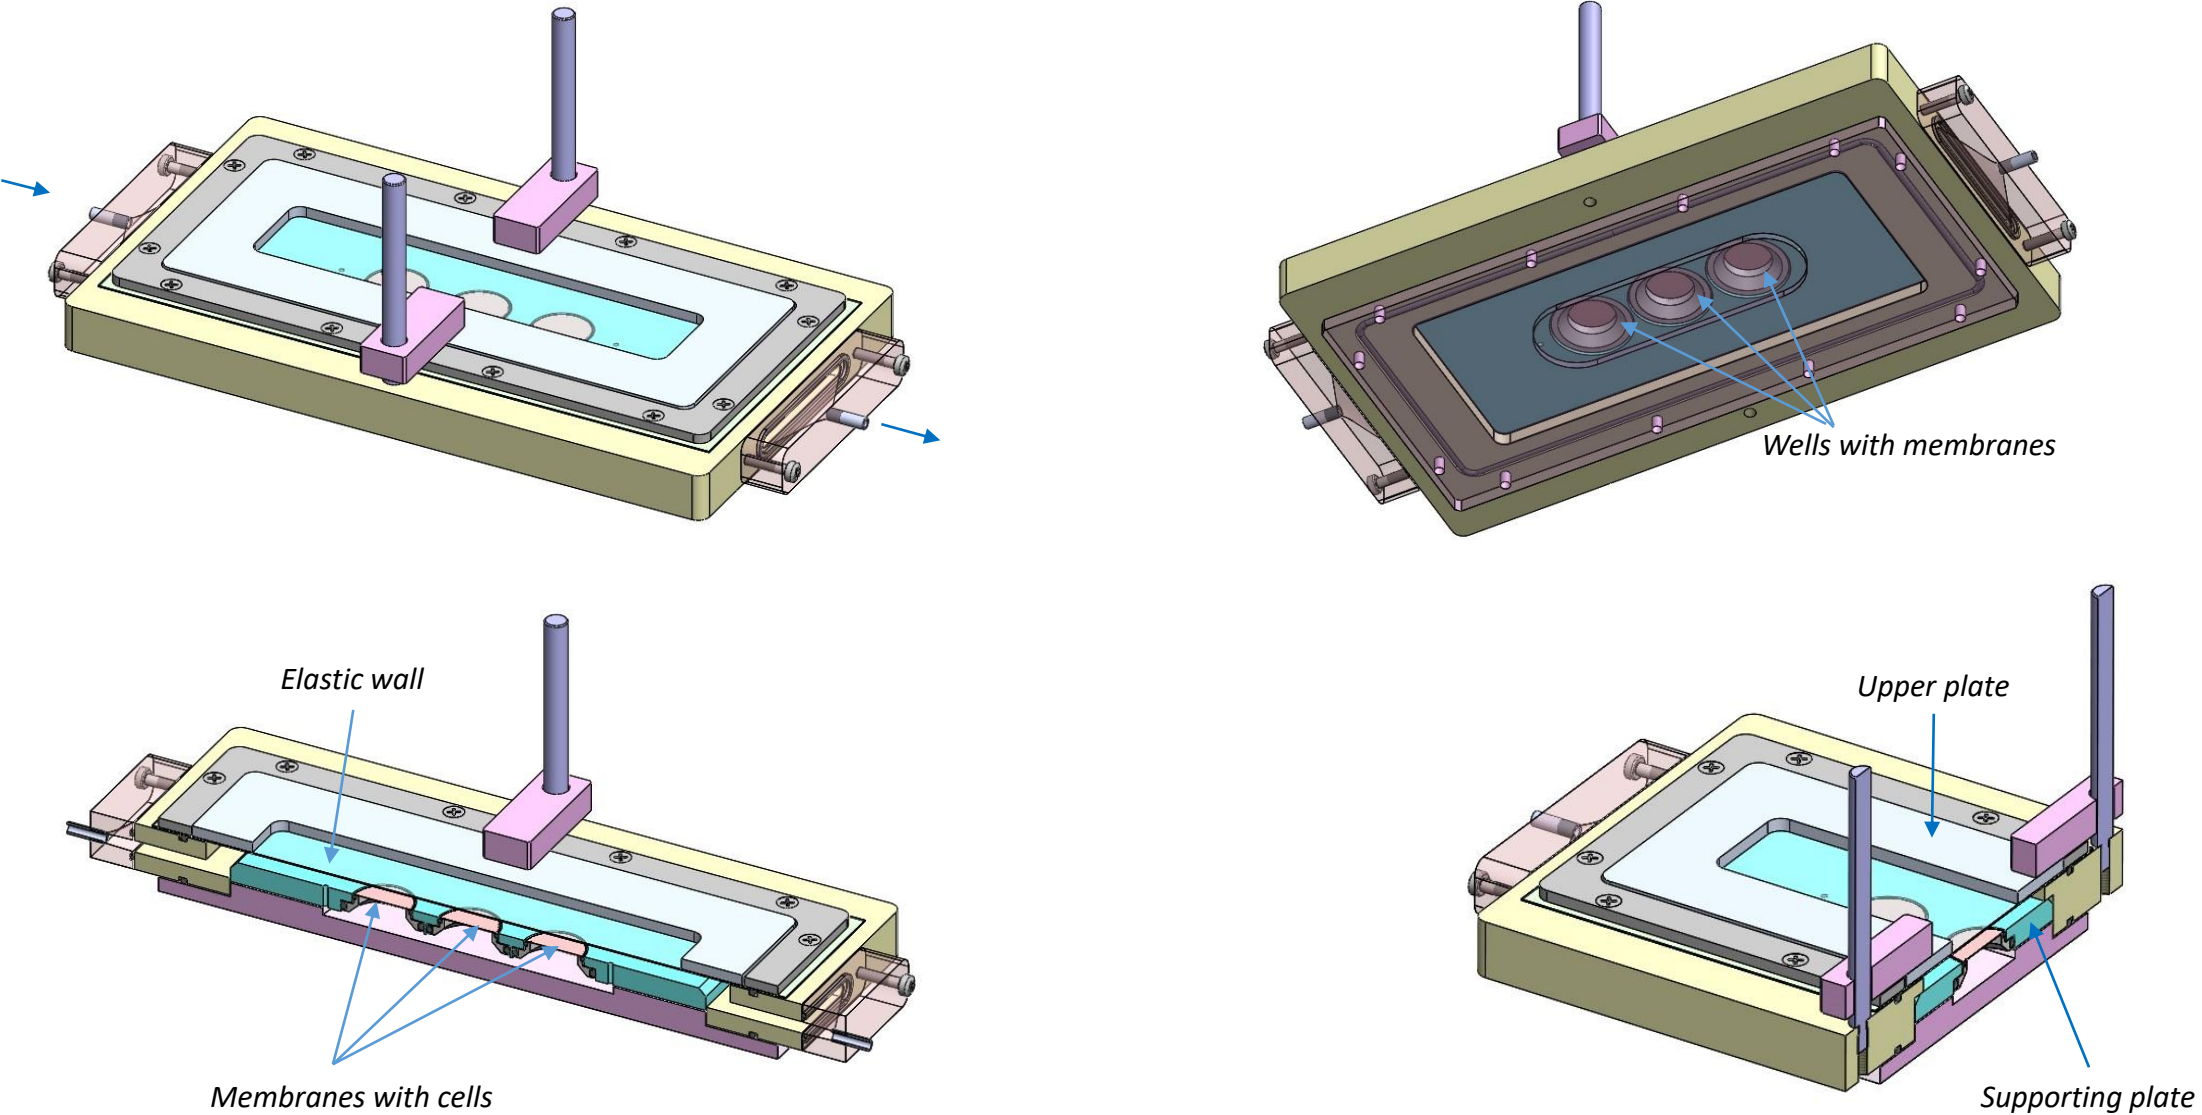
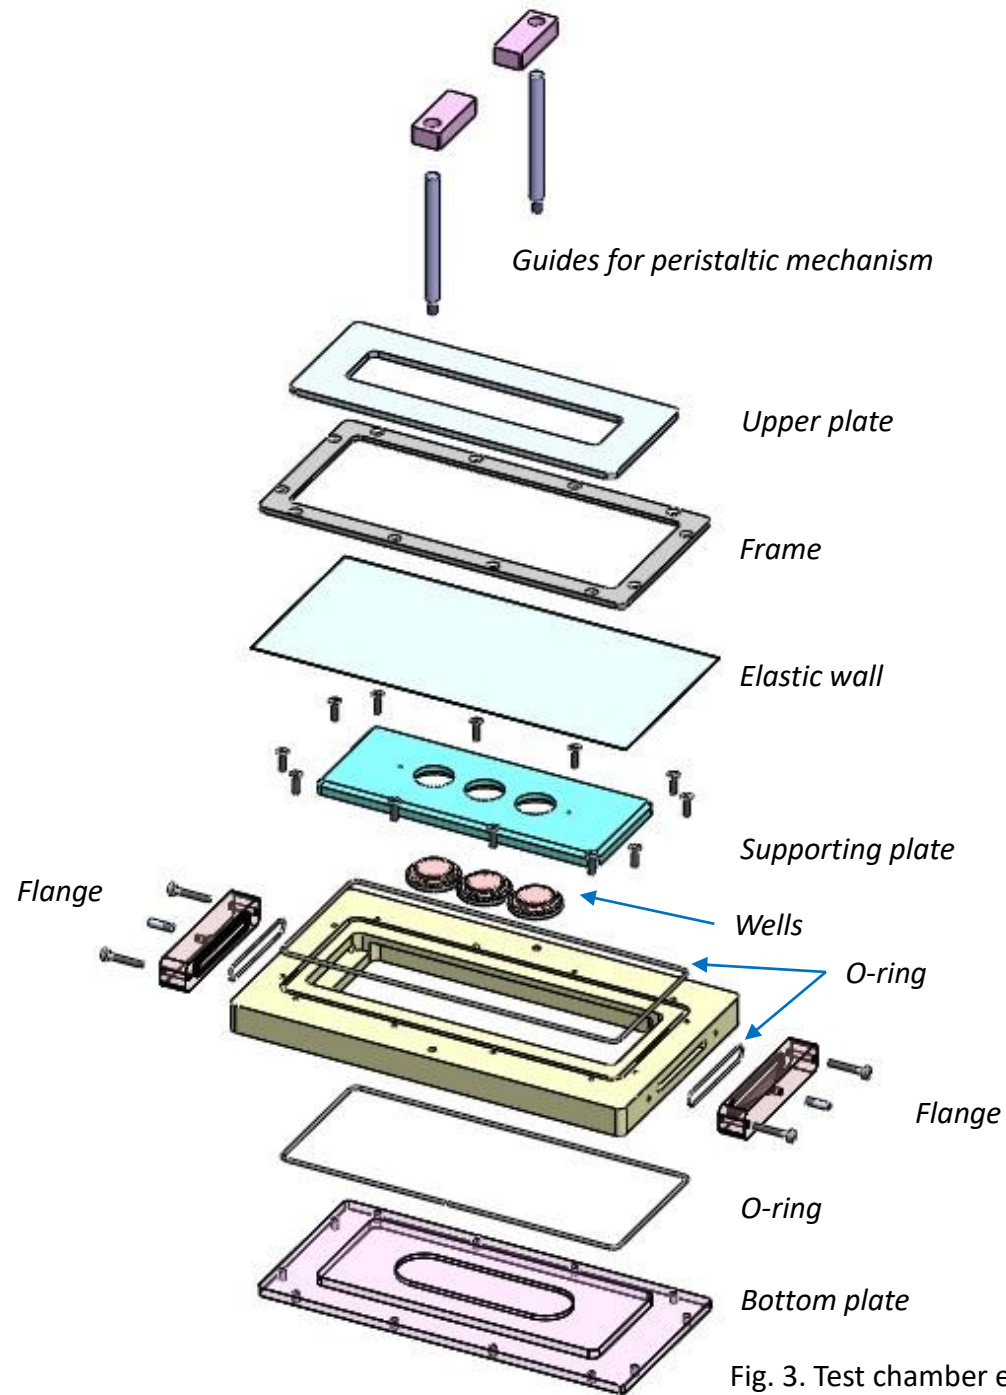

Fig. 2. General and sections view of the test chamber
Fig. 3. Test chamber exploded view
**Test chamber** could contain three big wells with a membrane of 24-mm diameter and cells layer (or multilayer) on it. The membranes surfaces are in the same plane as the supporting plate inside the flow channel. The test chamber is covered by elastic wall (1-mm silicon). The general and section views of the test chamber are shown in Figure 2. Exploded view is shown in Figure 3.